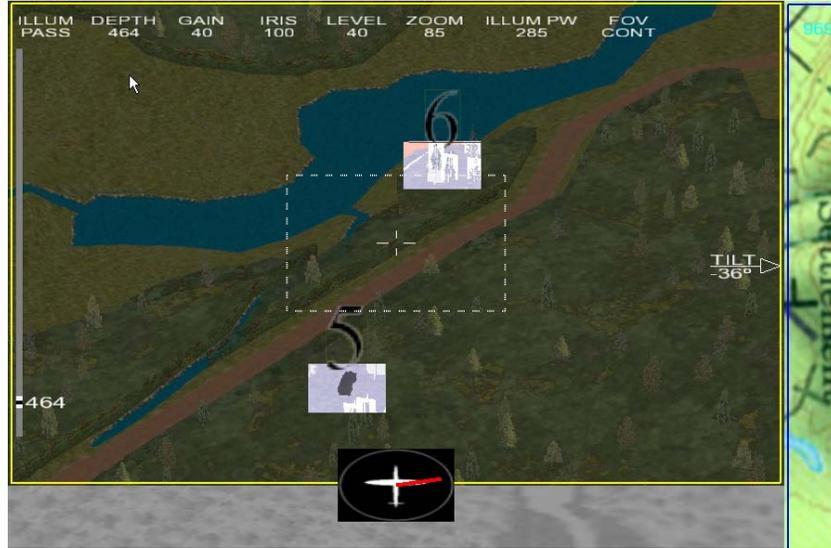

Figure 16: AIMS ATD Cue, Color Inversion type
3. **Color Inversion:** This type of cue is represented as an inversion of all colors in the rectangular area centered on the target, as in Figure 16. Only three targets can have this type of cue during one experiment.